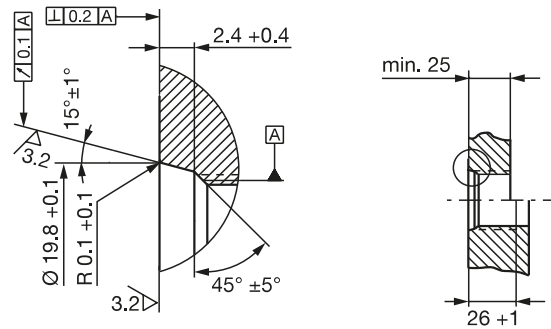
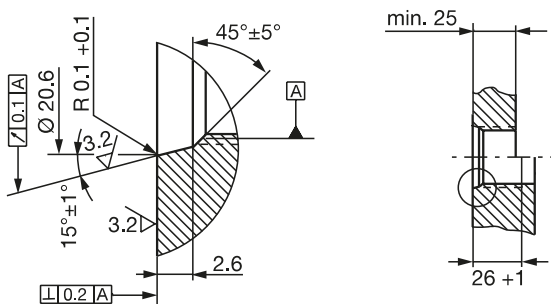

Fig. 4-3: Mounting hole M18x1.5 per ISO 6149 O-ring 15.4x2.1
Fig. 4-4: Mounting hole 3/4"-16UNF per SAE J475 O-ring 15.3x2.4
- ▶ Make a mounting hole with thread (possibly with countersink for the O-ring) acc. to Fig. 4-3 or Fig. 4-4.